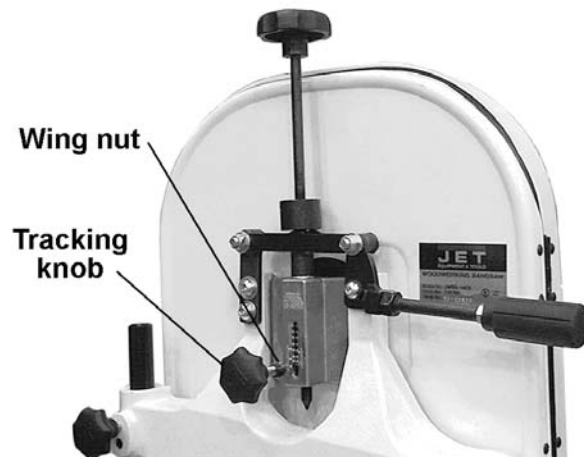

Figure 7
2. Make sure the blade is tensioned with the release lever in the down position as seen in Fig. 7.
3. If adjustment is necessary, loosen wing nut (Fig. 7), and tighten tracking knob slightly to move blade toward rear of machine. Slightly loosening the tracking knob will cause the blade to track toward the front of the machine.